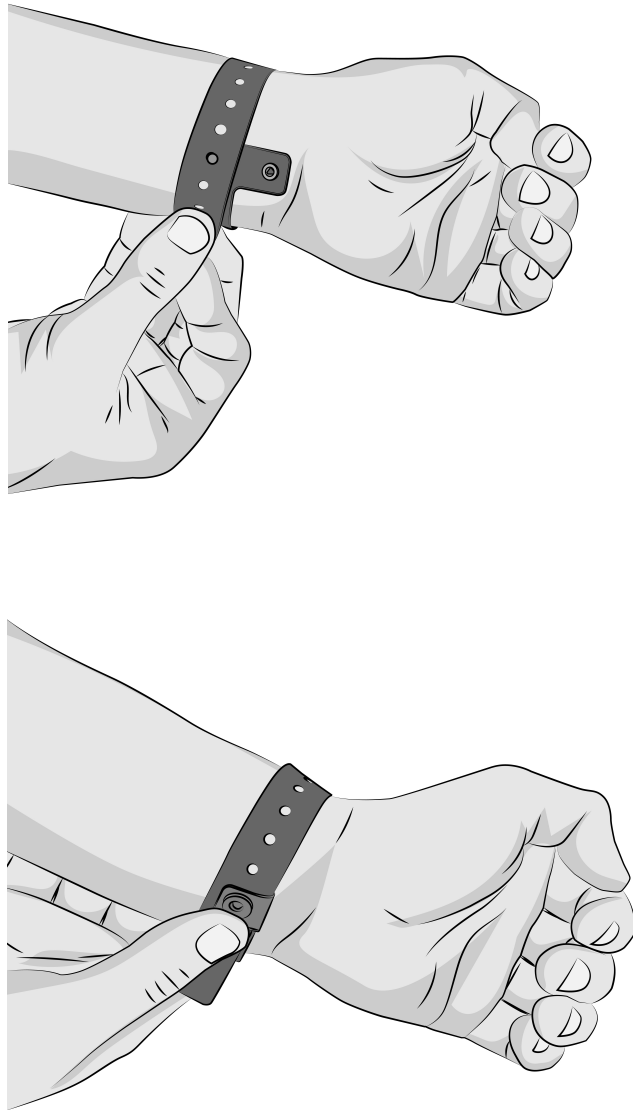

Figure 17: Attach Single Use Wristband
5. If using the single-use wristband, align the fastener button with the appropriate size hole on the opposite side of the wristband, ensuring that the wristband fits comfortably and securely. Once the correct size is found, fold tamper proof fastener button over to close the fastener. Fastener will pop into place when closed (figure 17). Note, once tamper-proof fastener is close, the wristband cannot be readjusted.